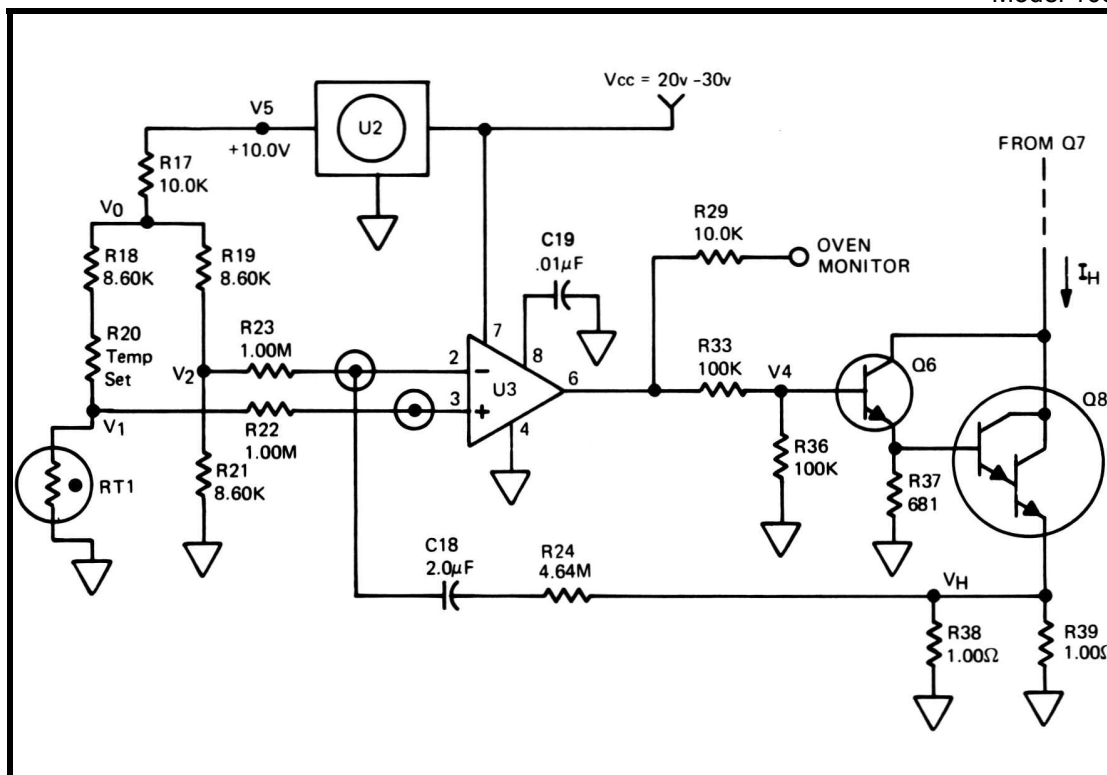

Figure 8-10. Oven Control Circuits
- 8-29. Three main blocks make up the oven circuits. See Figure 8-10.
- 8-36. U2 is a 10.0V voltage reference. It provides a stable voltage source for the bridge and U1. A change in the bridge reference voltage changes the voltage across the thermistor and hence, the power it dissipates. See Figure 8-10.